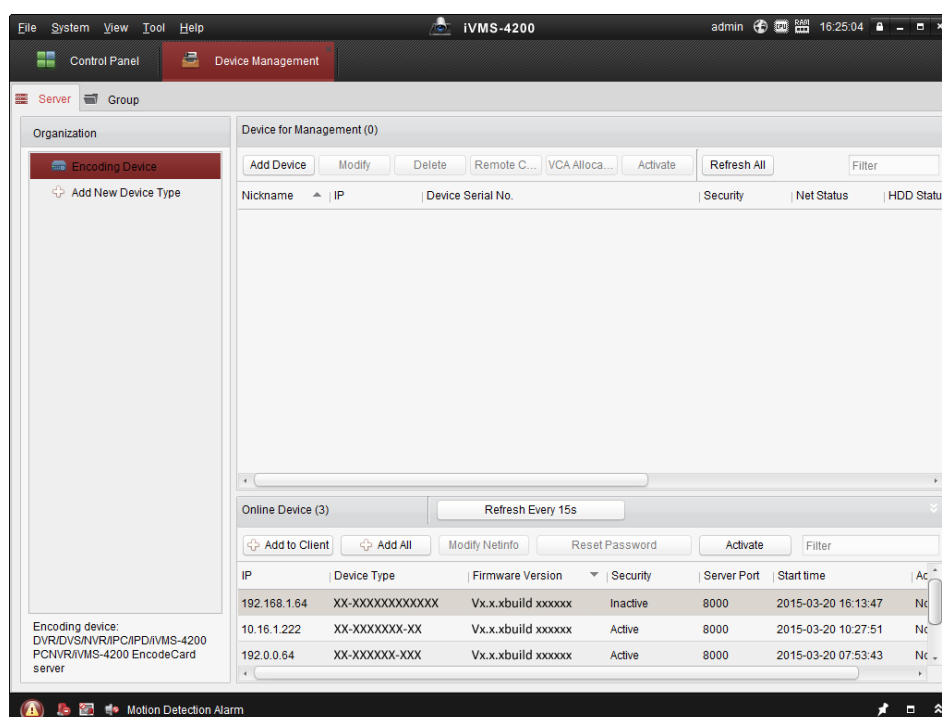

Figure 2-7 Device Management Interface
- Click **Device Management** to enter the Device Management interface, as shown in Figure 2-7.